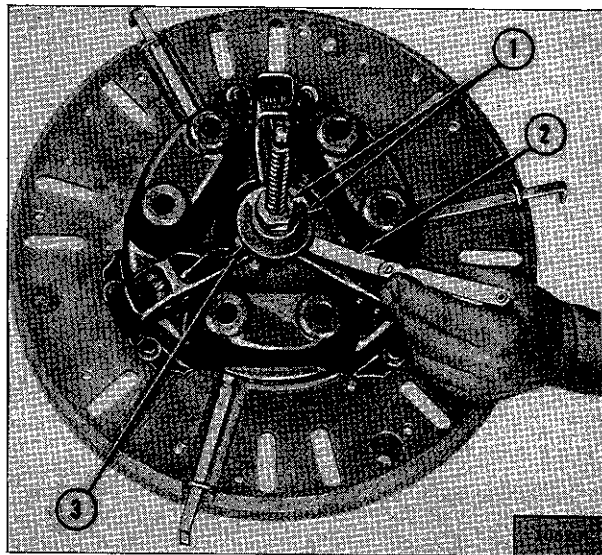

FIG. 195—ADJUSTING LEVERS ON ROCKFORD CLUTCH
h. Adjust the three lever adjusting screws until a .002" [0,051 mm.] feeler blade has a slight drag between the compression plate and each adjusting screw. See Fig. 195.